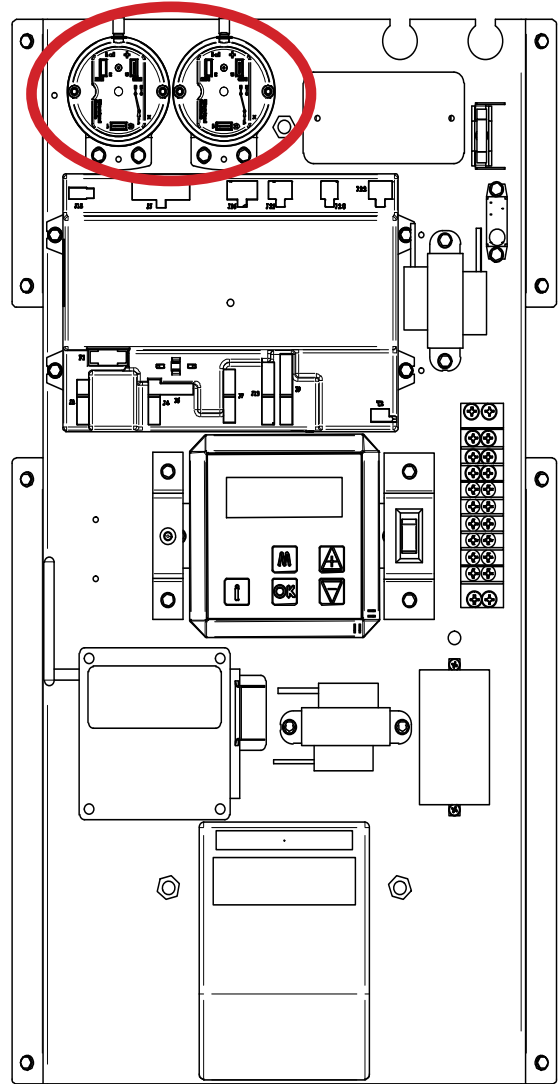

Fig. 49
4. Locate exhaust and/or intake pressure switch on the control panel (Fig. 49).